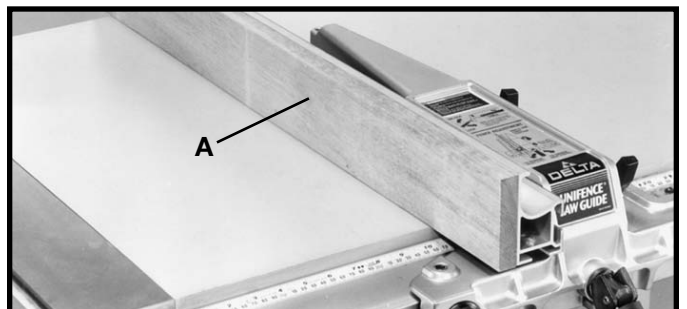

Fig. 147B
It is necessary when performing special operations such as when using the moulding cutterhead to add wood facing (A) Fig. 147B, to one side of the rip fence as shown. The wood facing is attached to the fence with wood screws through holes you drill in the fence. A suitable stock size for most work is 3/4", although an occasional job may require one inch facing.